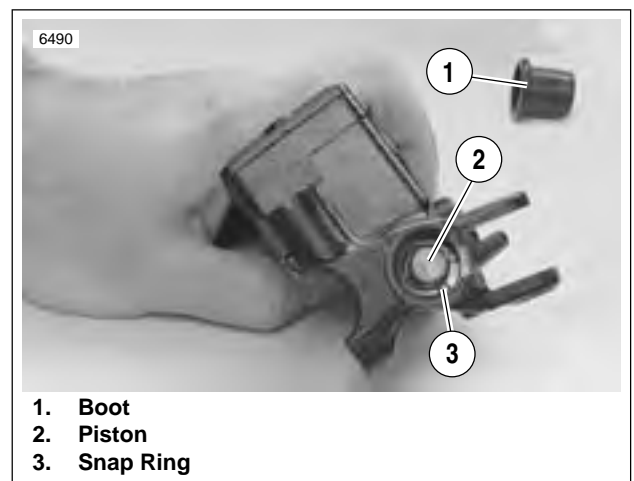

Figure 2-30. Snap Ring
- See Figure 2-30. Compress piston (2) and remove rubber boot (1).
- Depress piston assembly and remove internal snap ring (3). Discard snap ring.